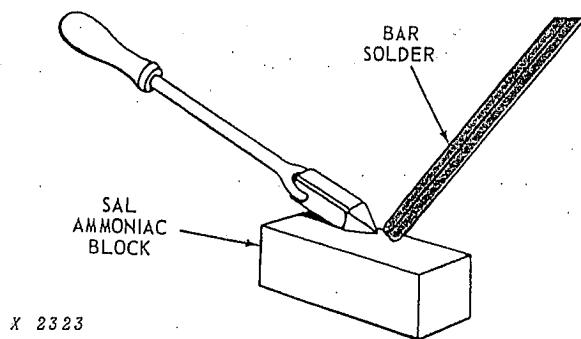

Fig. 74 — Tinning The Soldering Iron
2. Tin the soldering iron by rubbing it on a sal ammoniac block, then touching solder to it (Fig. 74). Or simply heat the soldering iron and touch the solder to it.